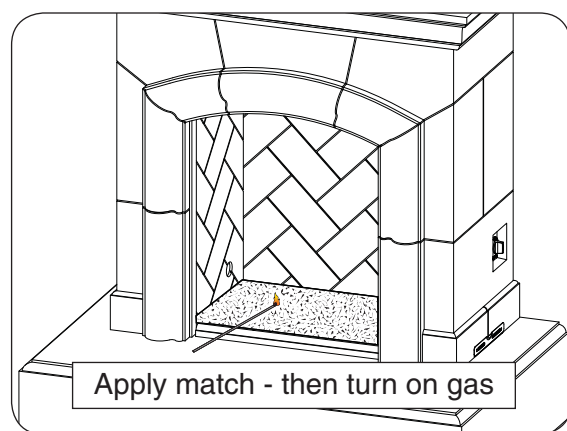

Fig. 19-1
3. Lay a lighted long-stem match on the surface of the decorative media near the burner (**do not hold the match in your hand**) or use a lighted long-necked butane lighter (Fig. 19-1).